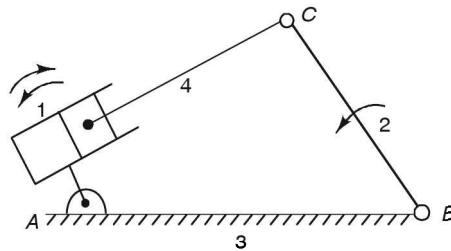

FIGURE 7.24 Oscillating-cylinder engine mechanism.
- (d) *Oscillating-cylinder engine mechanism:* In this inversion of a slider-crank chain, link 3 is fixed as shown in Figure 7.24. When link 2 rotates, link 4 slides in slotted link 1 (cylinder) up and down, making slotted link 1 (cylinder) to oscillate about point A. This is the reason why this mechanism is called oscillating cylinder engine.